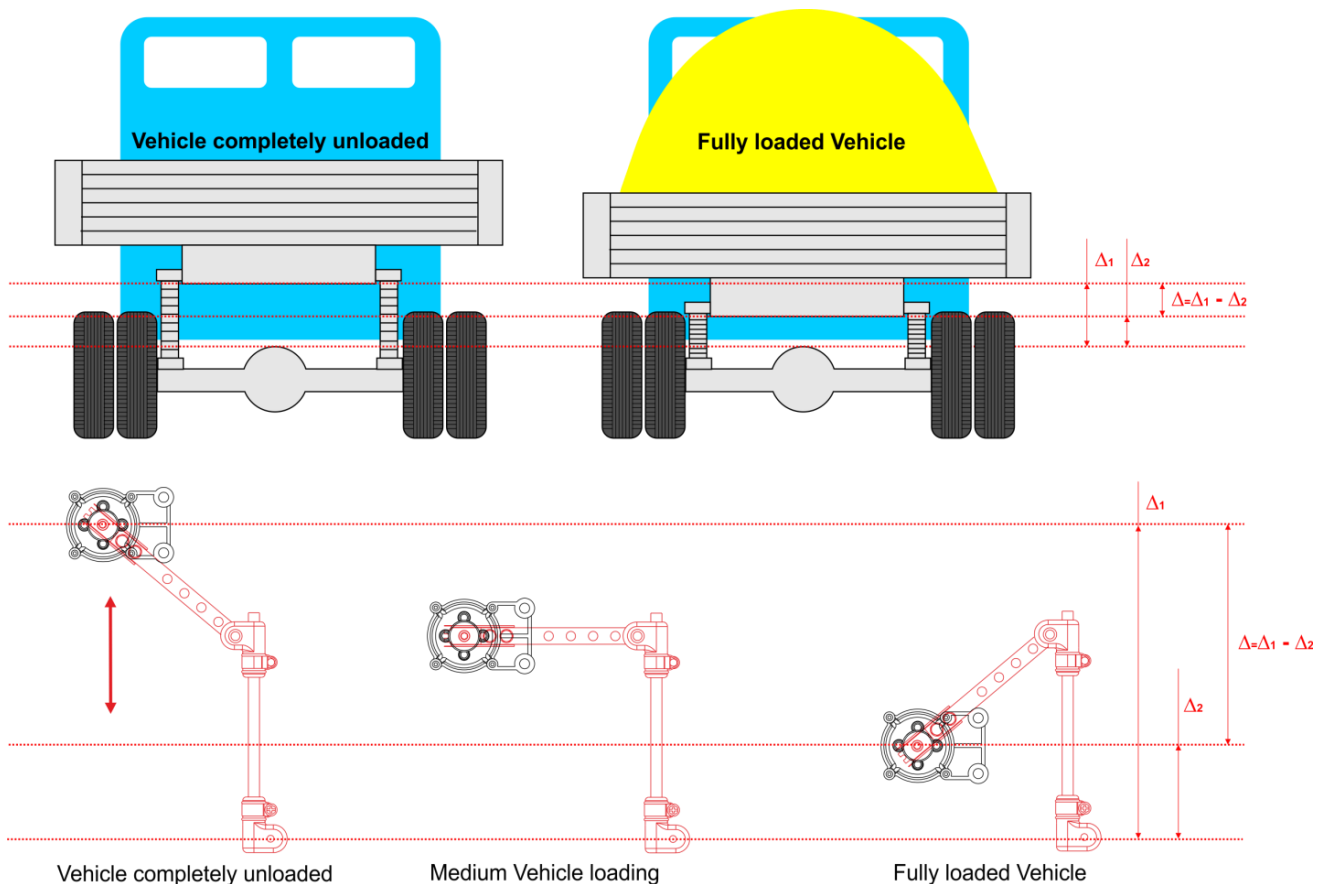

Figure 20 — Defining the Vehicle suspension travel
2) The lever length (L) and the rod length (H) from mounting kit are selected experimentally, specifically on the Vehicle to be equipped. The range of changing the angle of rotation of the lever of the mounted GNOM DP S7 must be within the entire Vehicle suspension travel (Δ) (see figure 20).